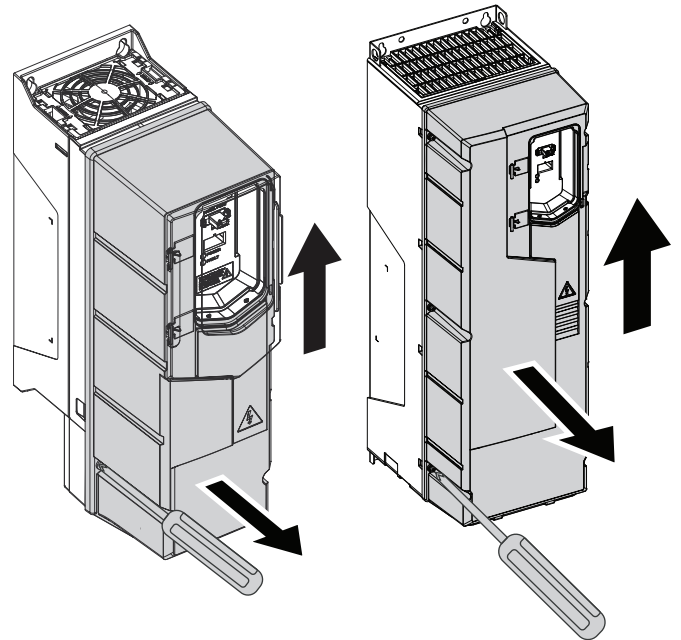

Fig. 64 — Remove Drive Cover (R1 and R2 Frame Sizes)
3. Remove the front cover by loosening the retaining screw. See Fig. 64.